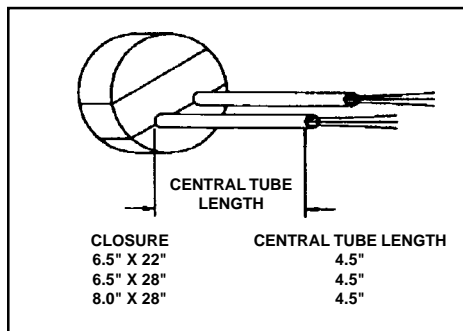

FIGURE 20 – LENGTH OF BUFFER TUBE
- 11.01** Place a tape marker on the central tube of unitube-type cables as shown in Figure 20.